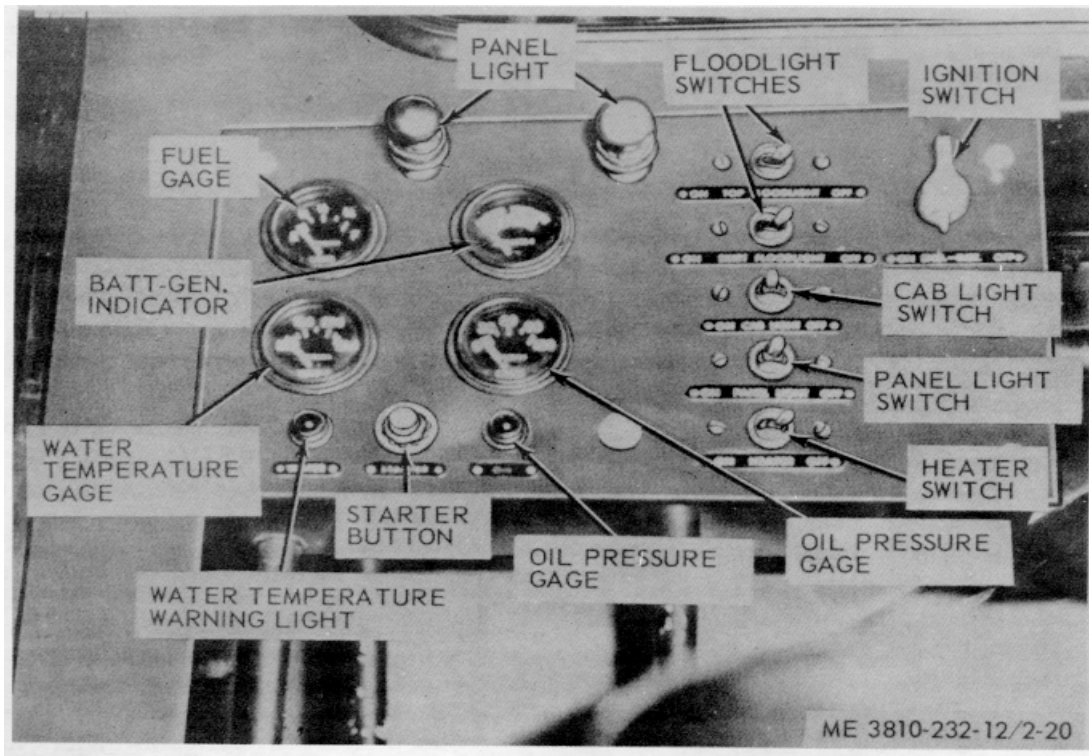

Figure 2-20. Crane instrument panel.
b. *Instruments.* The crane instruments panel is illustrated in figure 2-20.